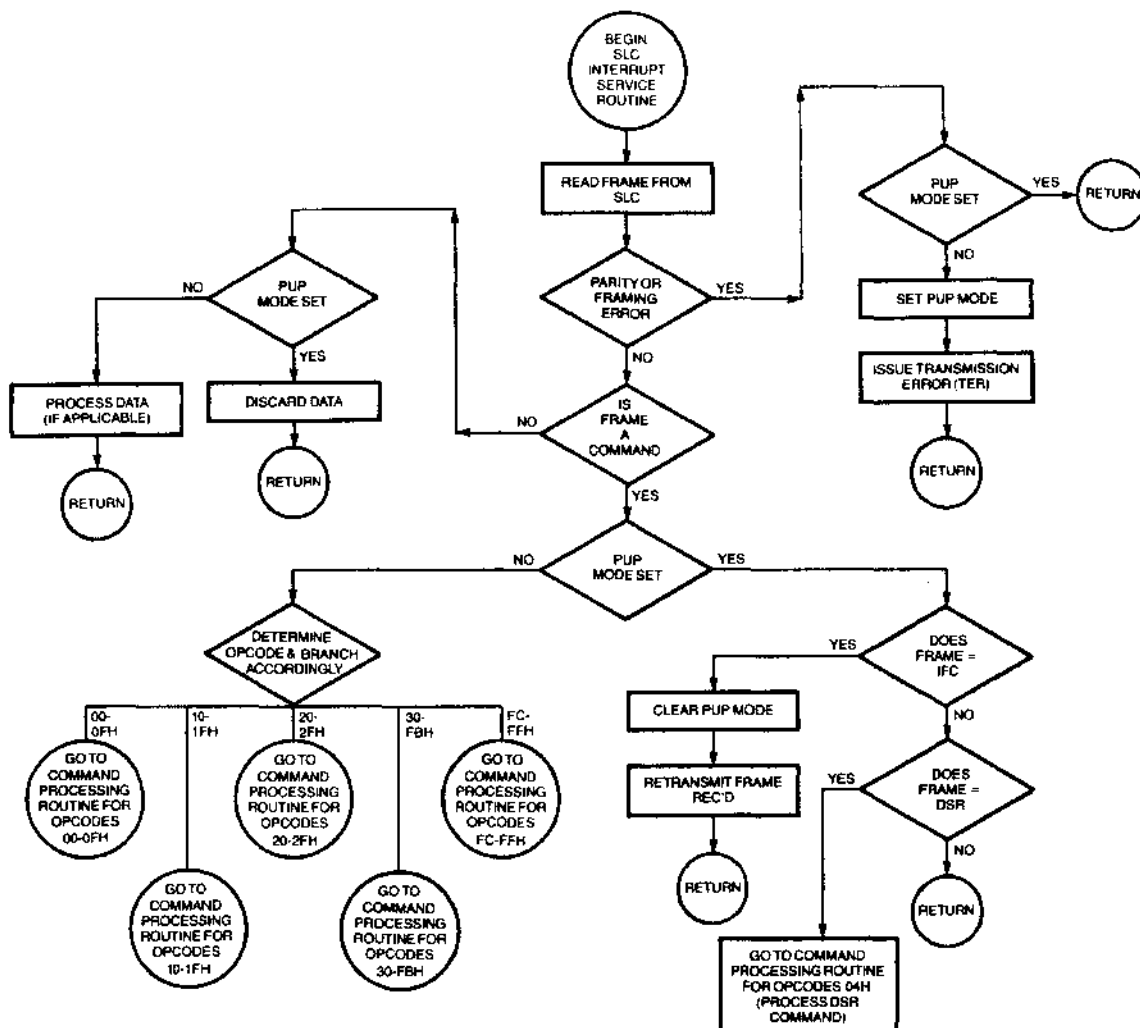
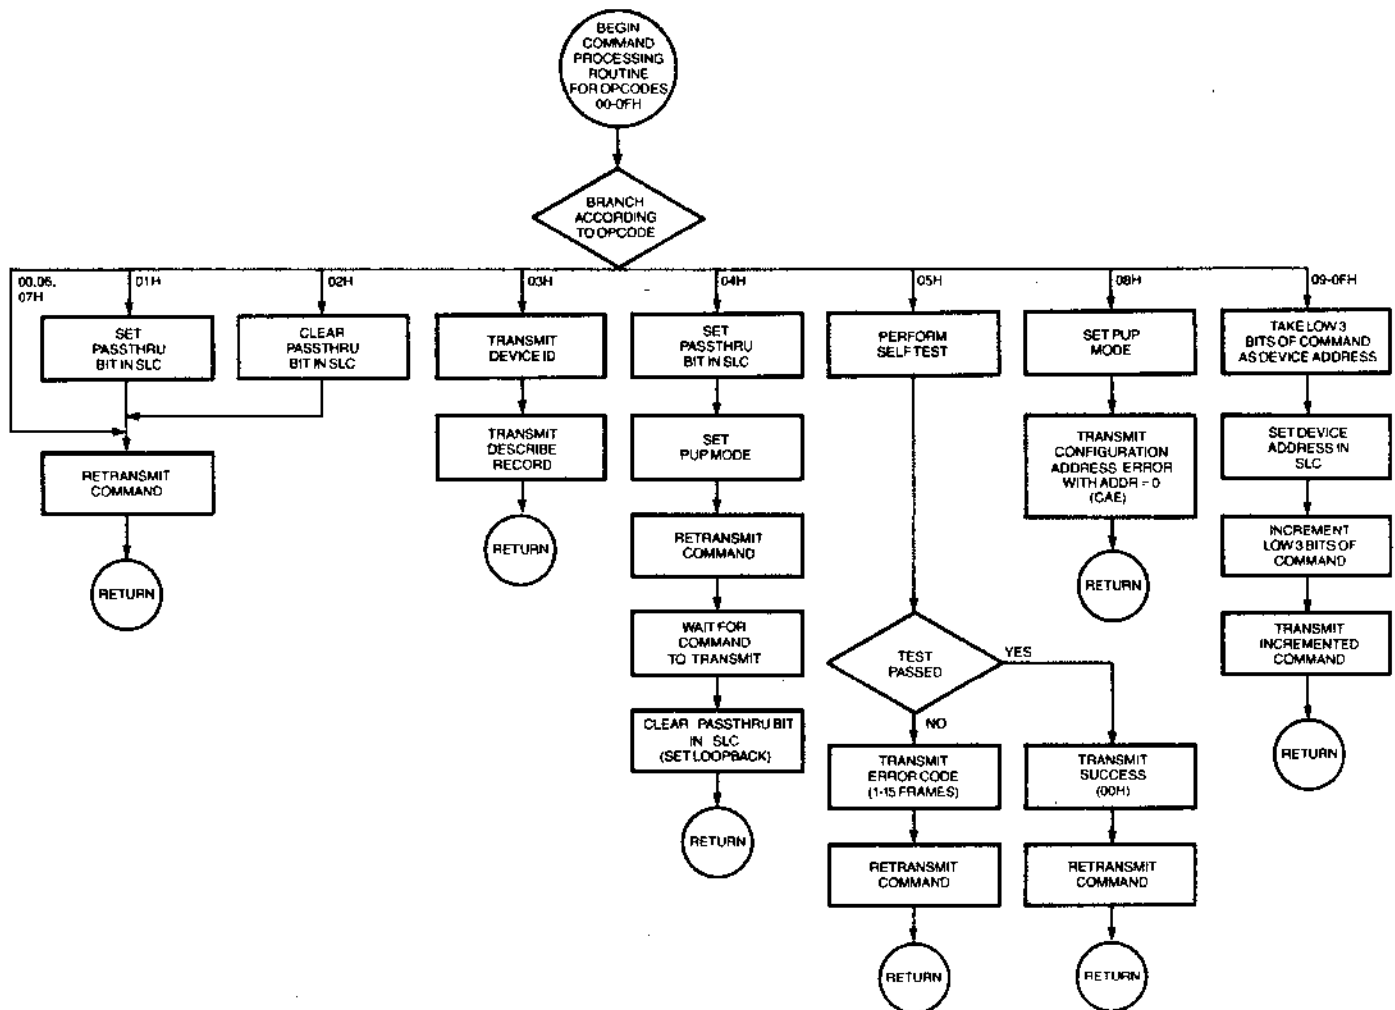

Figure 4-8. Device Interrupt Service Routine
Figure 4-9. Command Processing Routine for Opcodes 00 - 0Fh
When the SLC interrupts the device processor, control transfers to the interrupt service routine. The interrupt service routine is shown in Figure 4-8. There are two basic functions handled in this routine, error recovery and command sorting. Once in the routine, the processor reads the frame received by the SLC and checks for a parity or framing error. If an error has occurred, then PUP Mode is set. If PUP Mode is already set, then control returns to the top level, and the processor continues looking for data and interrupts. If the SLC was already in PUP Mode, a Transmission Error (TER) is not transmitted. If not, then the processor instructs the SLC to issue a TER and returns to the top level.
If no error has occurred, then the frame command bit is checked. If clear (0), then control transfers to the left and PUP Mode is checked as shown in Figure 4-8. If PUP Mode is clear, then the frame is a data frame and should now be processed, if applicable. An example might be a data frame which preceeds a Write Register command. However, if the device does not support the Write Register command, then the data cannot be processed and control returns to the top level. If PUP Mode is set, then the data is discarded because the device must ignore data when in PUP Mode. Control returns to the top level.
Command processing is handled by five routines, shown in Figures 4-9 thru 4-13. Each routine handles a range of opcodes such that all HP-HIL commands are covered. For the most part, the routines show the steps required to process all the various commands and follow closely with the information given in Appendix A.
Processing for commands with opcodes 00h thru 0Fh are shown in Figure 4-9. For opcode 00h, the command is retransmitted since IFC requires processing only when the device is in PUP Mode (see Figure 4-8). Opcodes 06h and 07h (RPG and WRG) are retransmitted because they are not supported in this example.